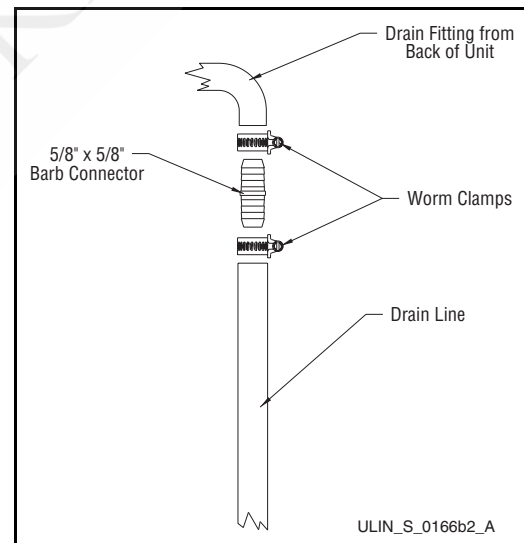

Figure 11
4. Slide a clamp on each side of the barbed fitting as shown (**Figure 11**).